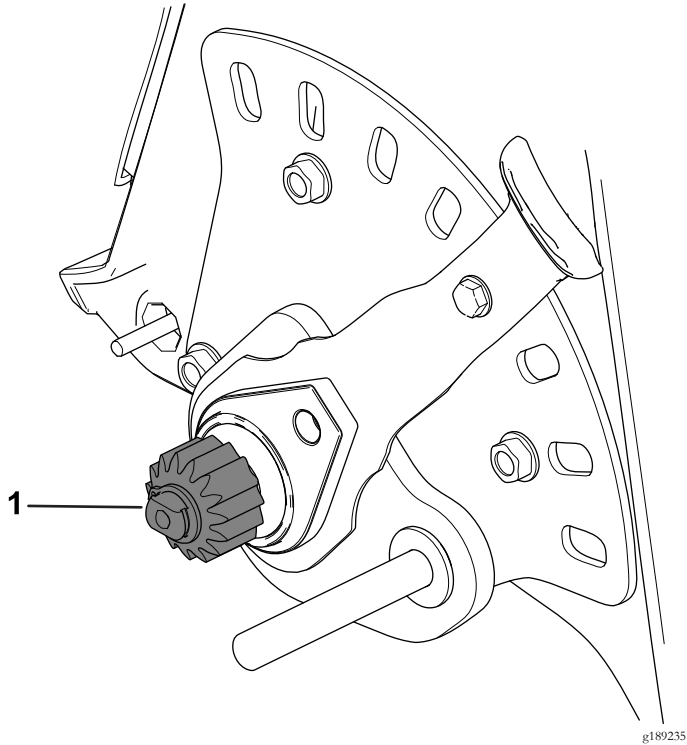

Figure 5
1. Clean the pinion gear (Figure 5).